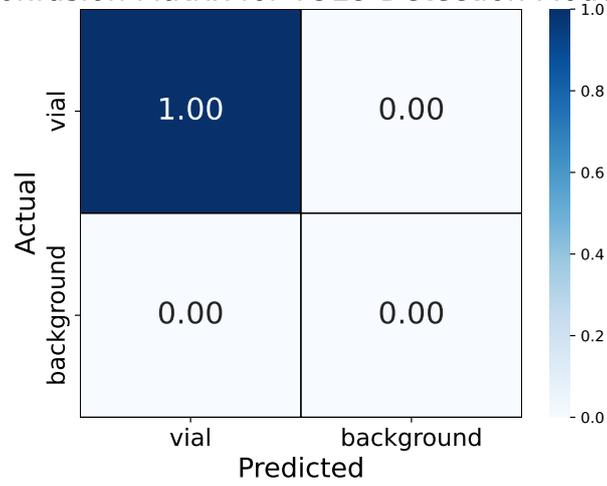

Figure S13: Confusion Matrix for YOLO Detection model. The model is not generating any errors.
- Fig. S13 shows YOLO detection model confusion matrix.